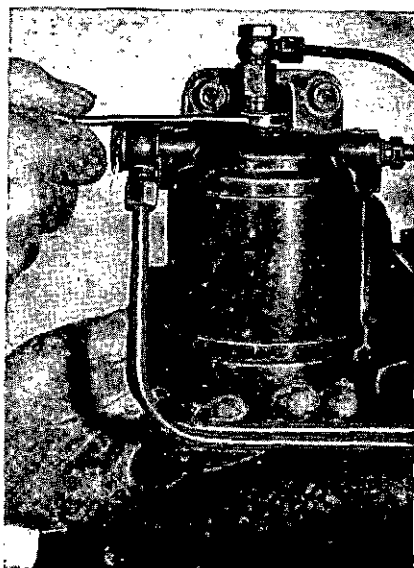

Fig. 17.
- (a) Unscrew the bolt in the centre of the top filter cover (see Fig. 17).